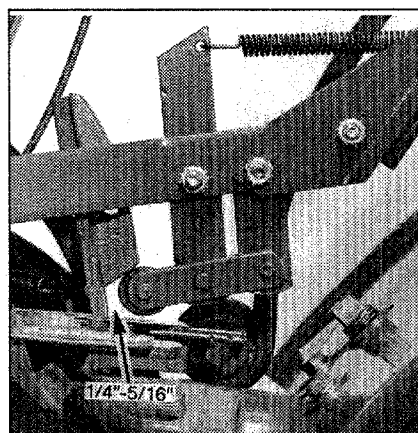

Figure 5-12: Shift into FORWARD and measure distance between roller and upright bracket using the belt adjustment tool.
2. Move the Wheels/Tines/PTO Drive Lever fully down to the FORWARD position. The clutch roller at the bottom of the lever should be positioned underneath the belt adjustment block (Figure 5-12). Don't let the clutch roller move during the next few steps. If it moves, you'll get a false belt tension reading.
3. The belt tension is correct if the front of the clutch roller is  $1/4$ "-to- $5/16$ " away from the face of the upright bracket that holds the adjustment block in place (Figure 5-12). To measure this distance: